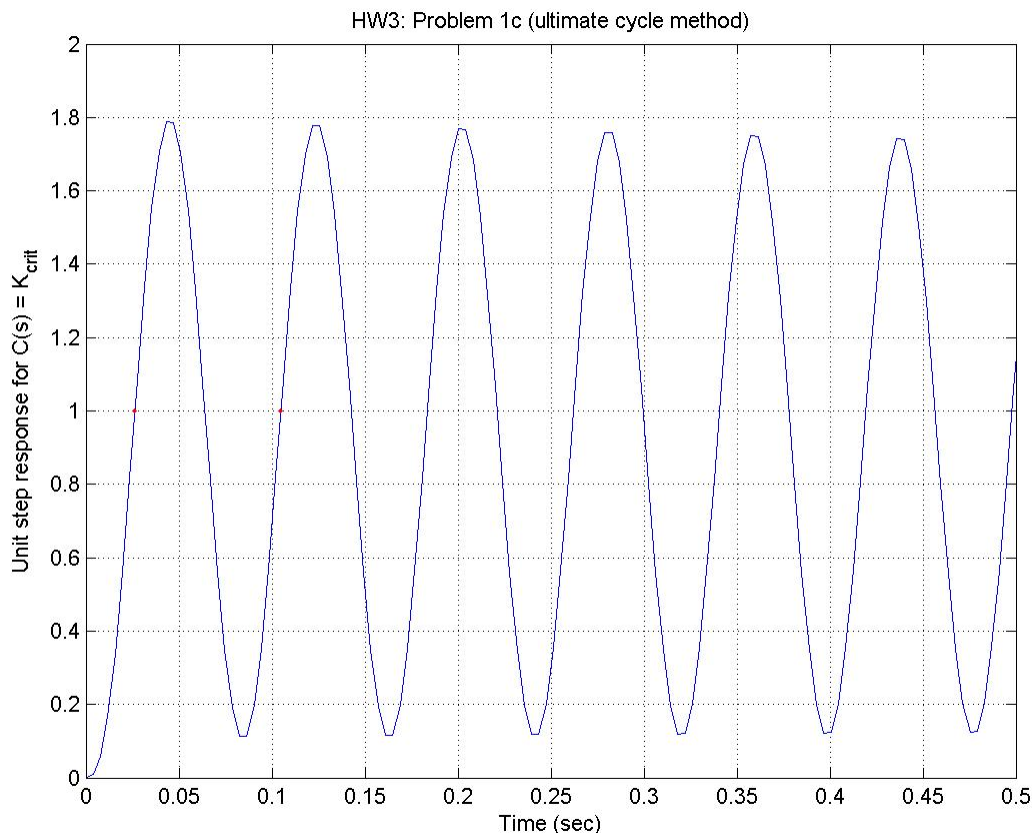

Figure 2c – Data for ultimate cycle method. Shown above is the closed-loop response when $K=97$.
i) Use the ultimate cycle method to find initial PID gains for the system shown in Figure 2c. This figure shows the response of the system when a proportional controller is used with a gain of 97; that is, we may assume here that $K_{crit} \approx 97$.